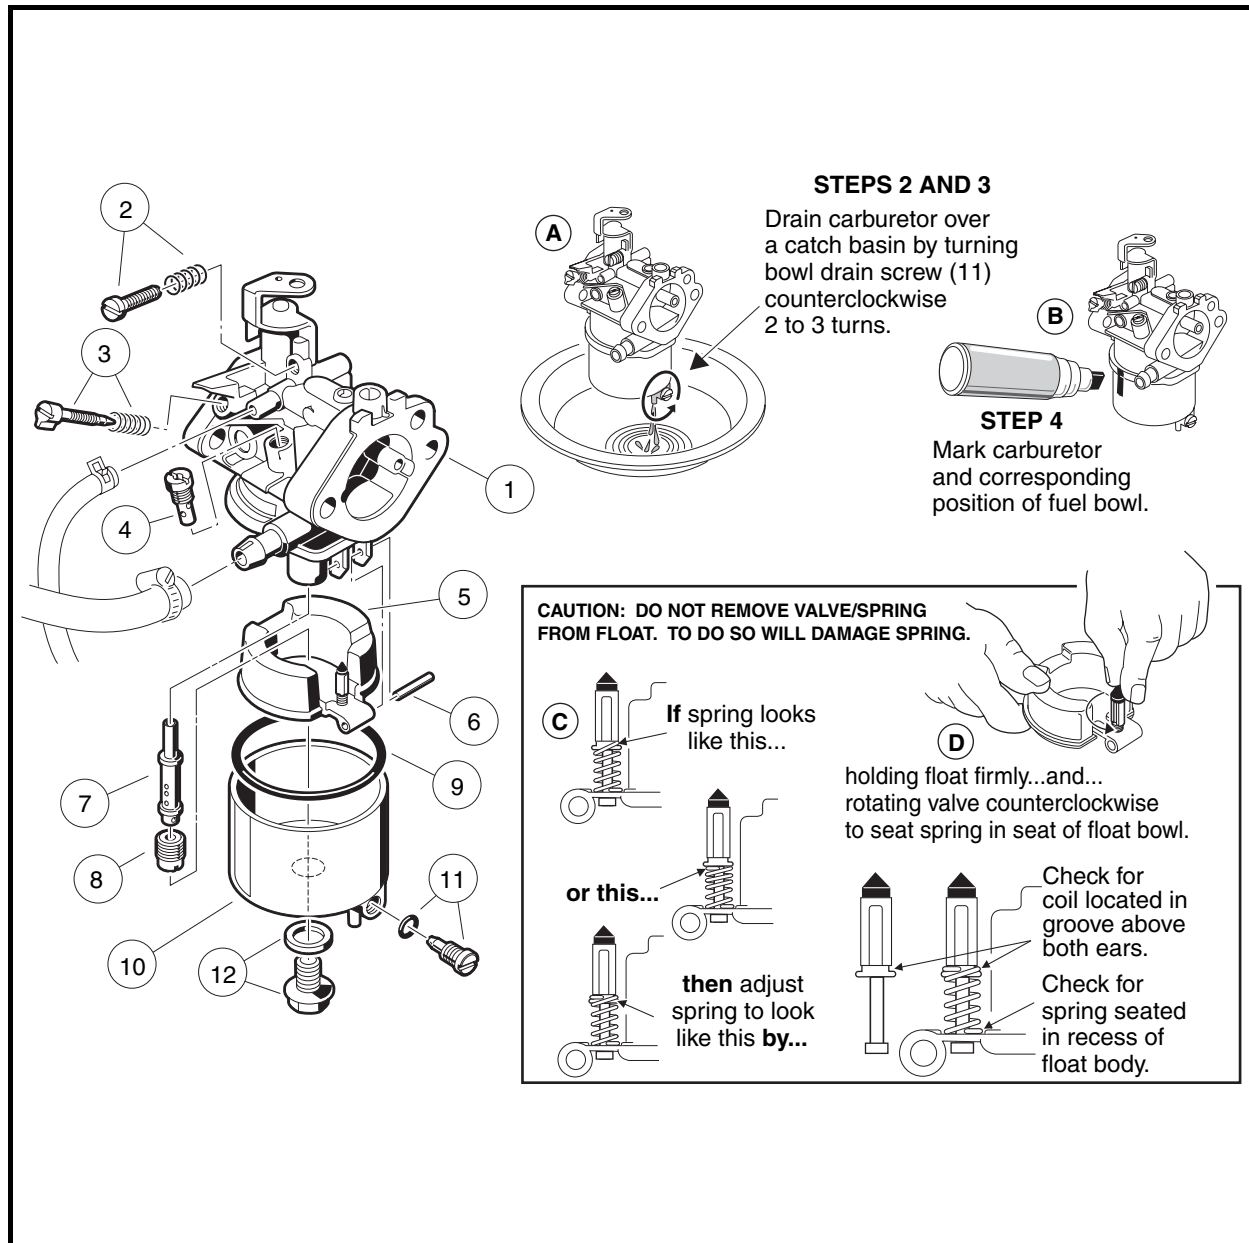

Figure 14-2 Changing the Main Jet
2. Position the carburetor with the drain screw (11) over a catch basin (**Figure 14-2, Page 14-4**).
3. Turn the carburetor bowl drain screw counterclockwise two or three turns and drain all the fuel from the bowl into the catch basin (**Figure 14-2, Page 14-4**). Tighten the drain screw to 10 in-lb (1.1 N-m). Return fuel to the fuel tank or dispose of properly.
4. Mark the body of the carburetor and the carburetor fuel bowl with an indelible ink marker so that, after removal, the bowl can be installed again in the same position (**Figure 14-2, Page 14-4**).
5. Remove the carburetor fuel bowl retaining screw and washer (12), then remove the fuel bowl (10) and clean it with a nonflammable solvent (**Figure 14-2, Page 14-4**). **See following NOTE.**
6. Remove the main jet (8) from the carburetor body and discard it (**Figure 14-2, Page 14-4**).
NOTE: Make sure the fuel nozzle (7) does not fall out of the carburetor body after removal of the main jet. This is best accomplished by positioning the carburetor upside down during main jet removal (**Figure 14-2, Page 14-4**).
NOTE: *Inspect the main jet nozzle (7), and pilot jet (4) to ensure they are free from contamination. Replace any part that is clogged with contamination. Replace the float if it is damaged, or if the float valve is damaged or worn. Examine the float valve/spring assembly to make sure the spring is installed correctly (Figure 14-2, Page 14-4).*